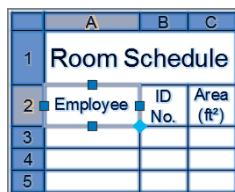

FIGURE 15.20 Resizing a column with cell grips
14. Use the arrow keys to move between cells in the table. Press the left arrow key twice to move to cell A2. Each cell has four grips. Click cell A2's right grip, and move it to the right to stretch column A wider. Click a point a short distance to the right to set the column width approximately as shown in Figure 15.20.